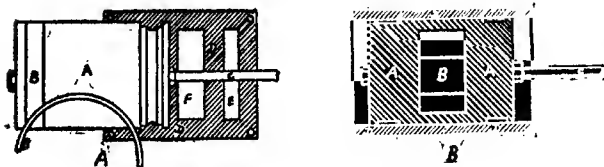

FIG. 76.—NEWTON BALANCED VALVE.
**The Newton Balanced Valve.**—This is another balanced valve which operates on the same principle as the D slide valve. Two views of this valve are illustrated in Fig. 76. The left-hand view (A) shows the back of the valve with the valve cover removed. In this view the body of the valve A is semicircular in shape, the flat part being the valve face, while the circular back is fitted with grooves in which snap rings B are fitted. A cover fits snugly over